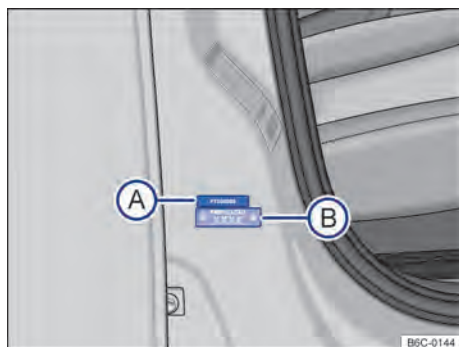

Fig. 206 In the lower area of the front right door pillar: vehicle partial identification number label (A) and manufacturing year plate (B).
The plates (VIS) are located on the lower area of the front right door pillar → Fig. 206 (A) and in the engine compartment on the driver side, in the suspension strut. These plates are destroyed when removed.
The manufacturing year identification plate is located on the lower area of the front right door pillar → Fig. 206 . This plate is destroyed when removed.